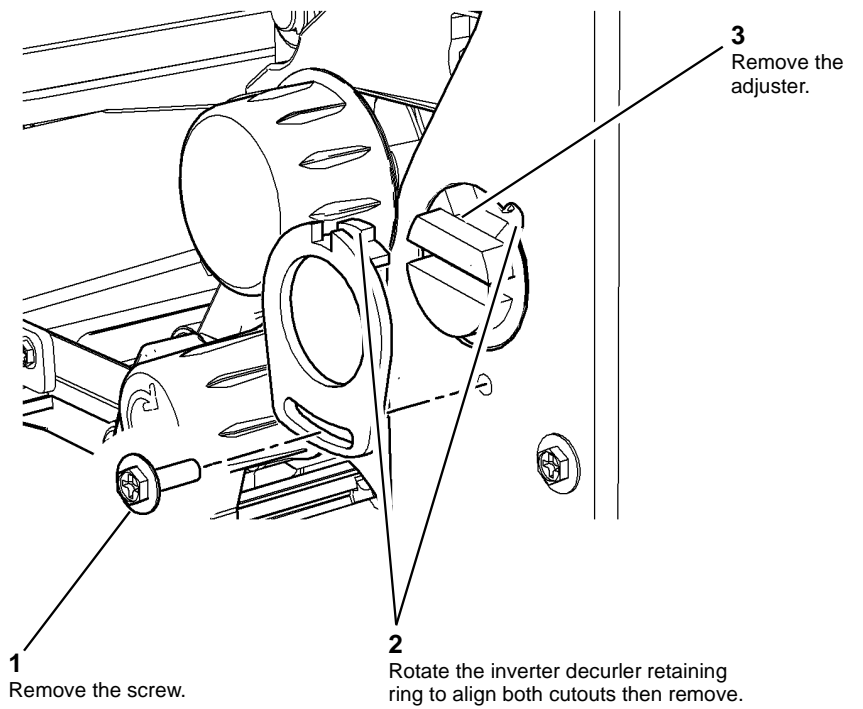

Figure 2 Adjuster and retaining ring
6. (W/TAG 046, W/TAG 047 or W/TAG 148). Remove the inverter decurler adjuster and retaining ring, Figure 2.